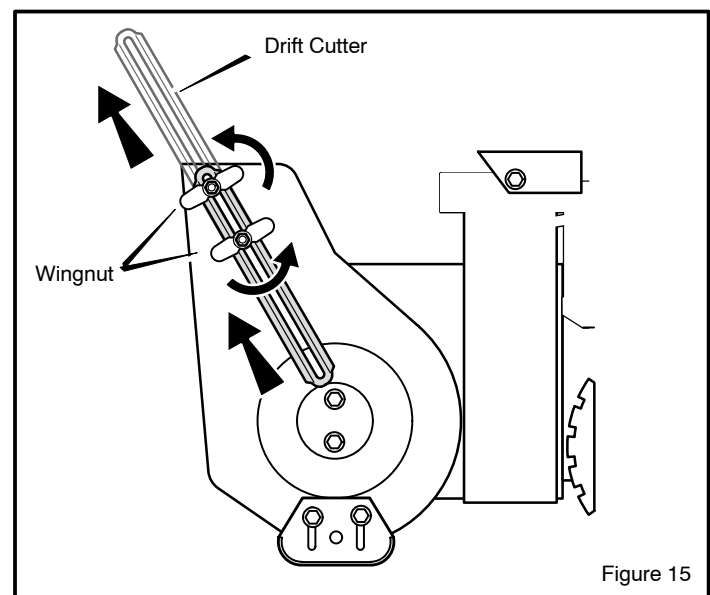

Figure 15
1. Loosen the **wingnuts** that secure the **drift cutters** to the auger housing (see Figure 15).